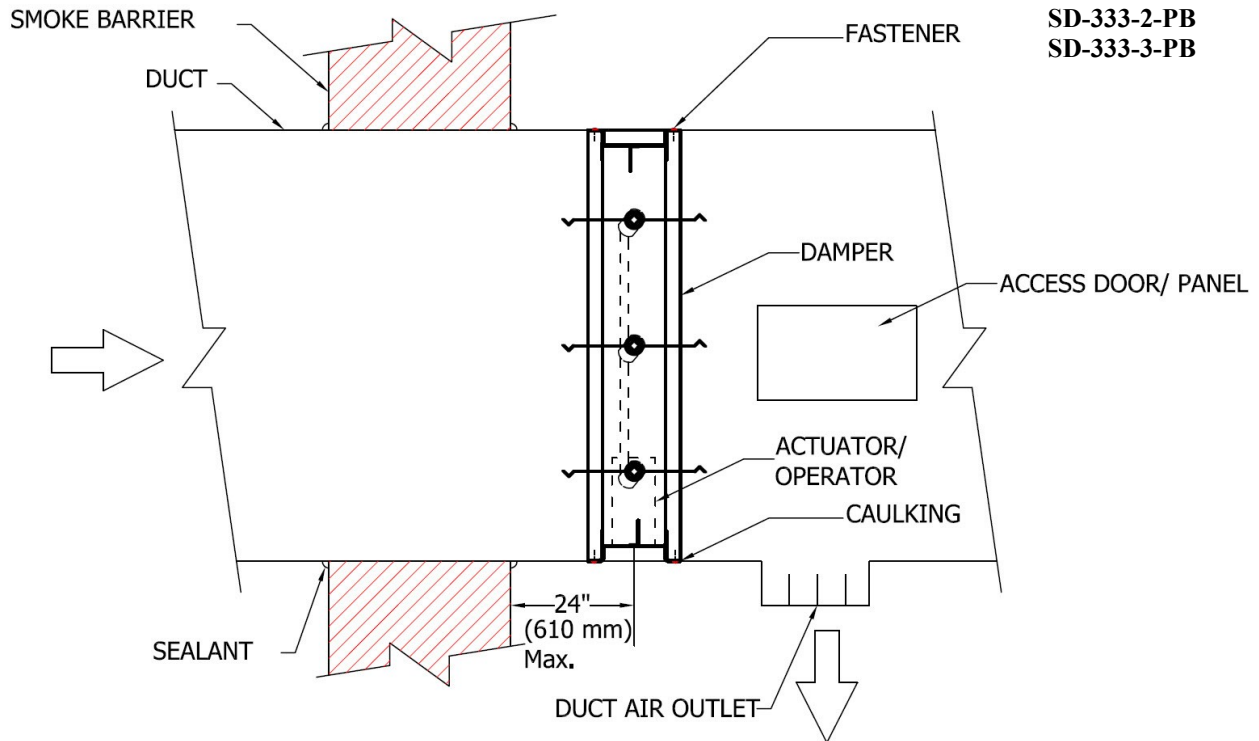

Figure 1: Smoke damper installation
- Smoke dampers must be installed at or adjacent to the point where the duct passes through the smoke barrier as shown in Figure 1.